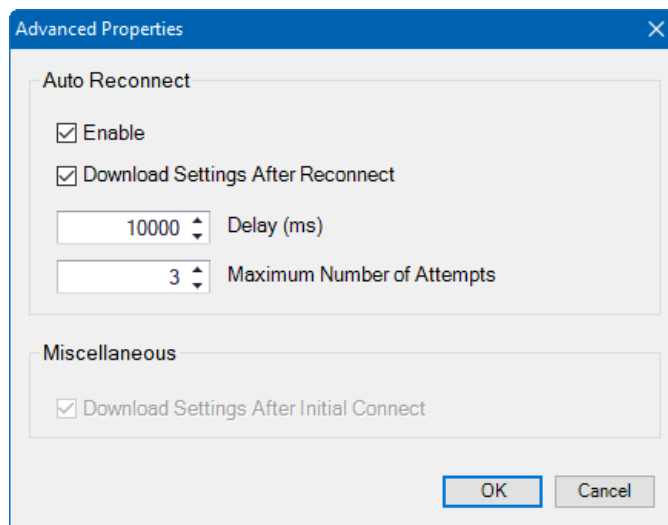

Figure 20-8. Advanced Properties, Auto Reconnect
7. The *Advanced* button displays the window shown in Figure 20-8. It contains options for enabling Auto Reconnect, downloading settings after reconnect, the delay between retries (in milliseconds), and the maximum number of attempts (Figure 20-8).